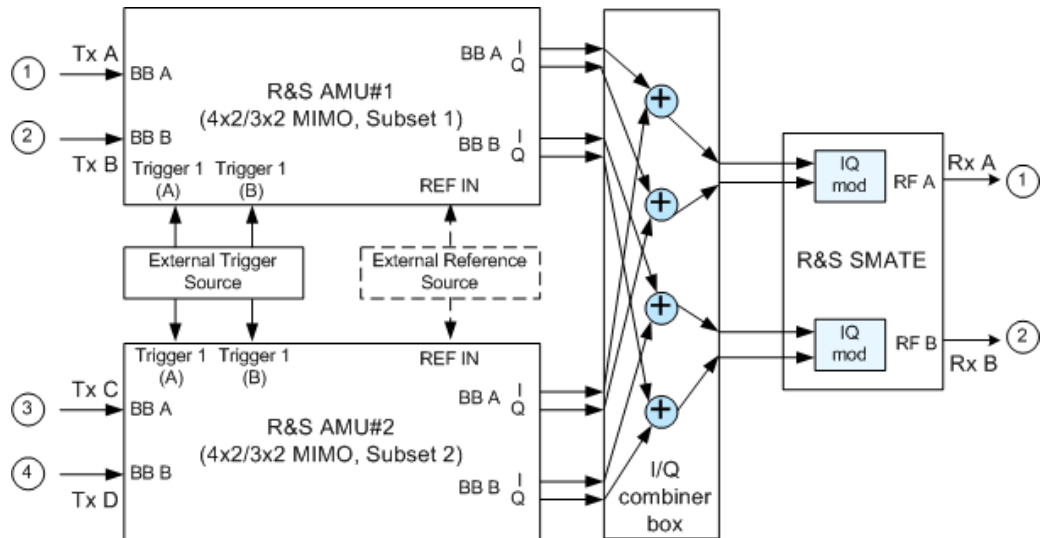

Fig. 5-5: 4x2/3x2 MIMO up to 6GHz with two R&S AMUs, one R&S SMATE and one I/Q combiner
4. For simulation of a 4x2 or 3x2 MIMO mode up to 6 GHz, the I and Q outputs of both instrument have to be connected to the I/Q Combiner Box and the I and Q outputs of the I/Q Combiner Box have to be connected to the I and Q inputs of the R&S SMATE as shown on the figure 5-5.